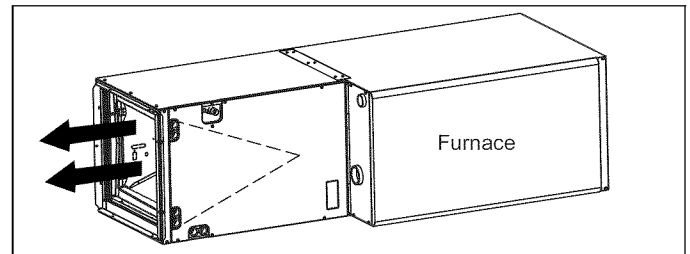
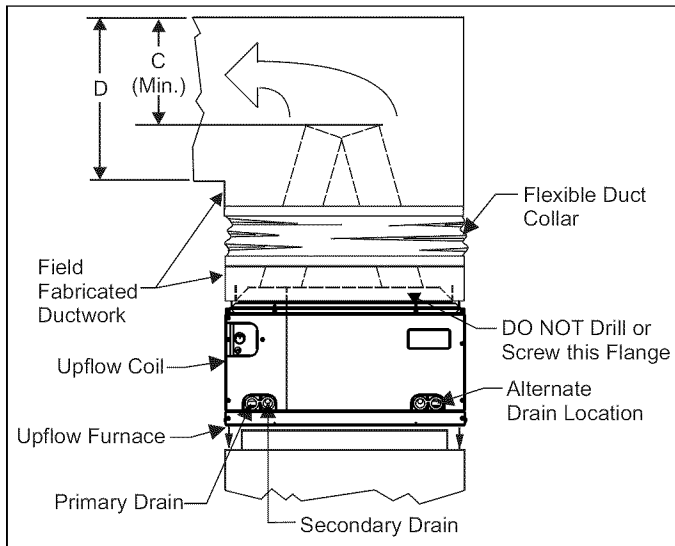

FIGURE 8: Horizontal Left Application
FIGURE 9: Upflow Coil Installation
1. Position the coil casing over or under the furnace opening as shown in Figure 8 after configuring coil flanges as required see "Coil Flange" section below and refer to Figure 9.
The coils include removable flanges to allow proper fit up with furnaces or two-piece air handlers having various inlet and outlet flange configurations. The two flanges are attached to the top of the coil in the factory during production. If the installation requires the flanges to be moved to the bottom of the coil, remove the screws attaching the flanges to the top of the coil casing. Next, install the flanges to the bottom of the coil casing using the same screws. Refer to Figure 9.